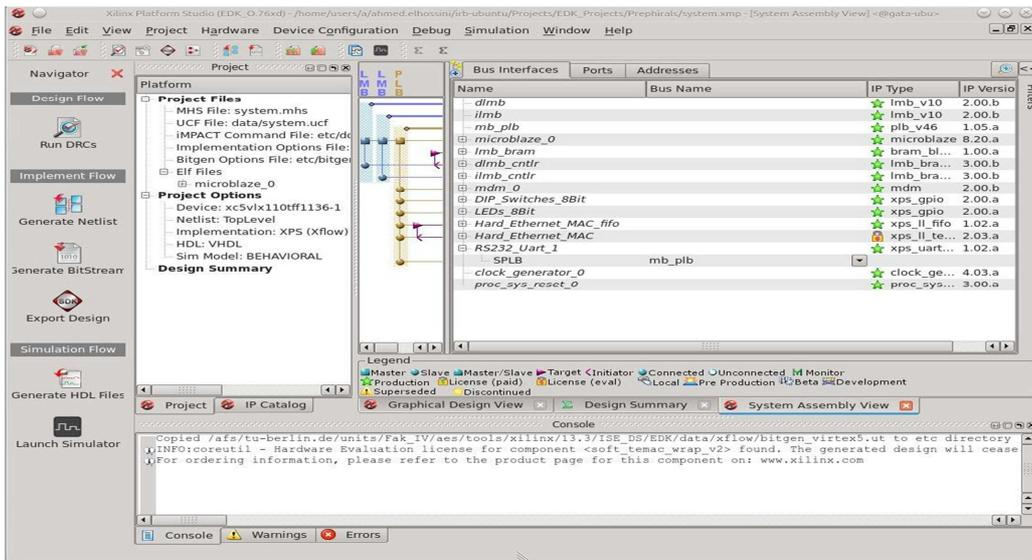

Figure 1: Platform Studio Window
Step 1: Starting from the end of tutorial 2: you should end up with the Platform Studio window shown in Figure 1. In this window select the menu item “Hardware-> Create or Import Peripheral...”. This will display the “Create or Import Peripheral Wizard” window shown in Figure 2. This wizard will guide you through the required steps to create a new peripheral. Click “Next” to continue.